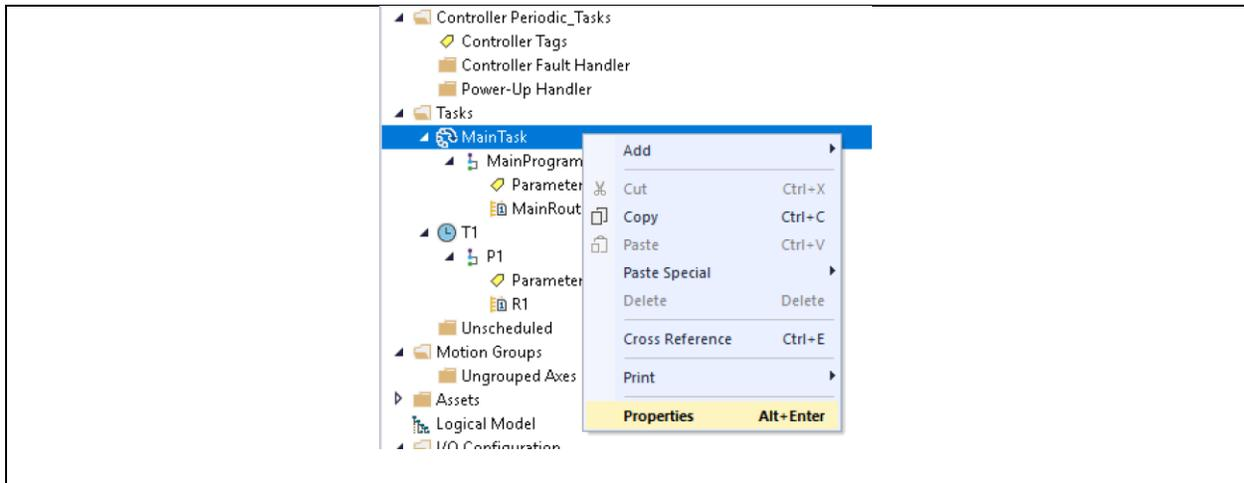

Figure 3. Right click on the Task, then choose Properties.
1. Right mouse click on the Main Task, as shown in Figure 3.